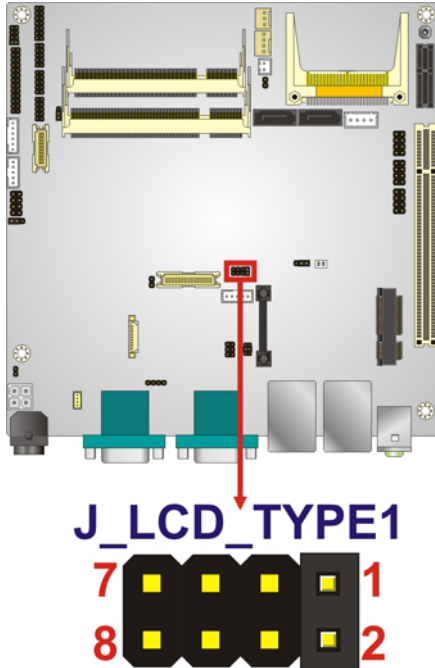

Figure 4-8: LVDS2 Panel Resolution Jumper Location
- Jumper Location:** See Figure 4-8